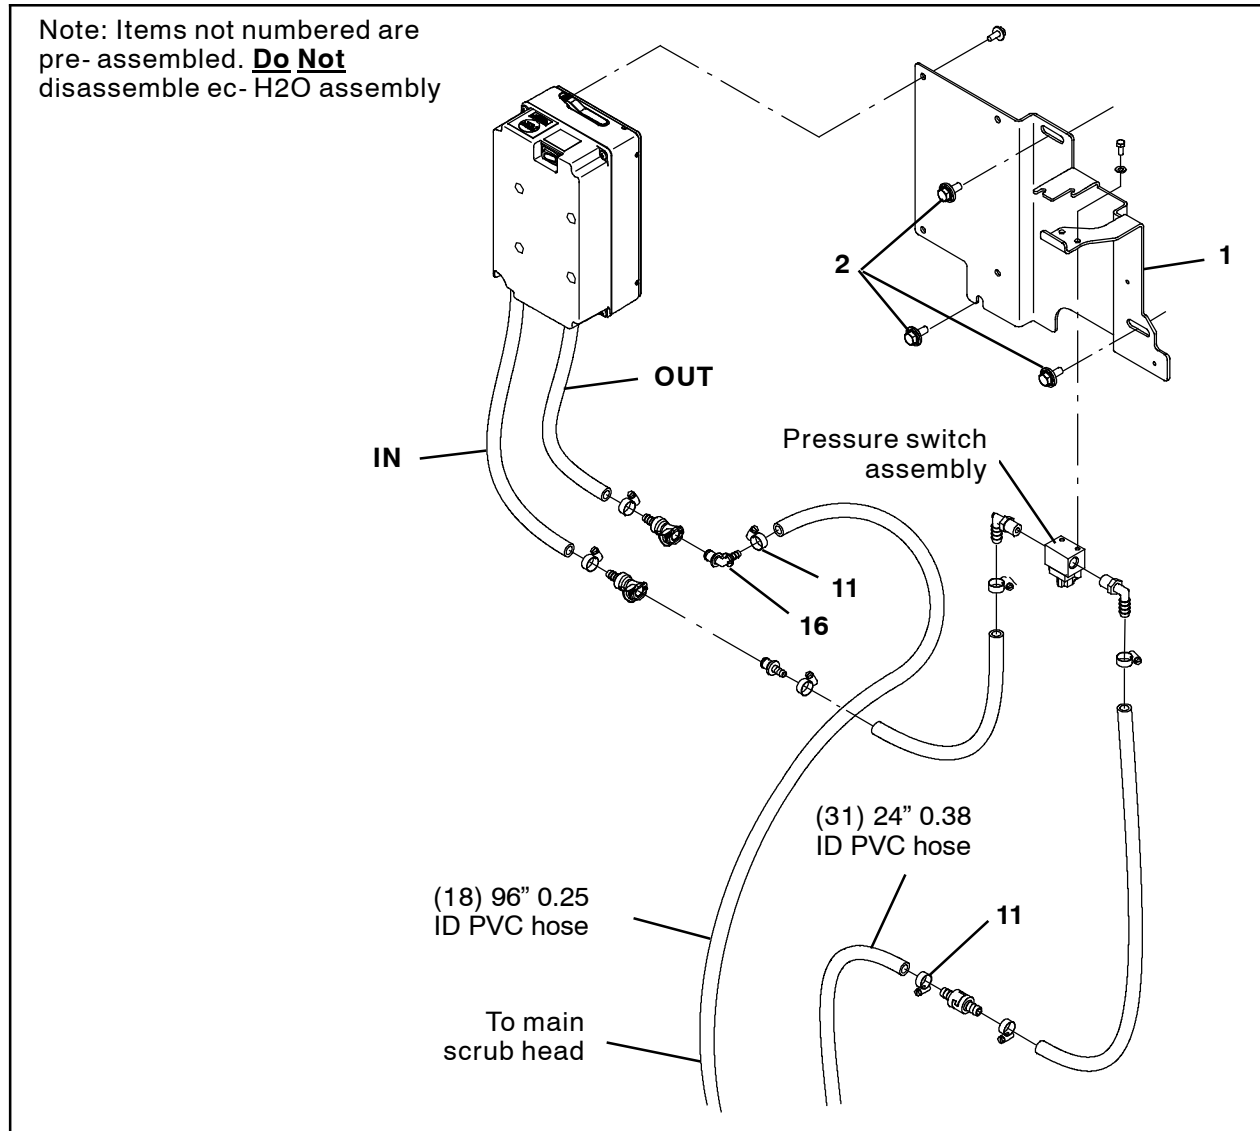

FIG. 1
1. Use three SEMS M8 hex screws to install the ec- H2O assembly to the machine. (Fig. 1)
3. Use a hose clamp (11) to install a 90° plastic fitting (16) onto one end of the 96" 0.25 ID PVC hose (18). (Fig. 1)
4. Connect the hose assembly assembled in the previous step to hose from the OUT port of the ec- H2O assembly. (Fig. 1)
5. Use a hose clamp (11) to connect the 24" 0.38 ID PVC hose (31) to the hose connected to the pressure switch assembly. (Fig. 1)